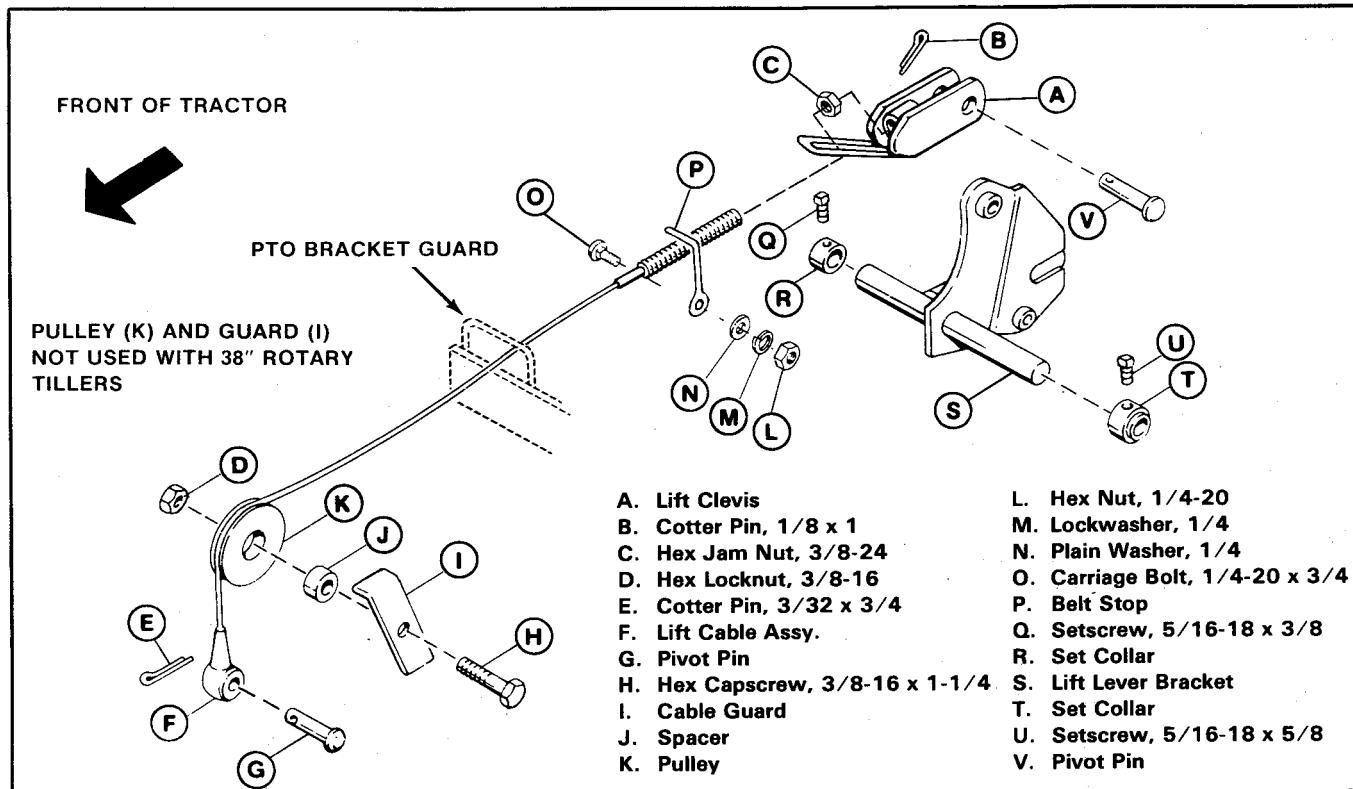
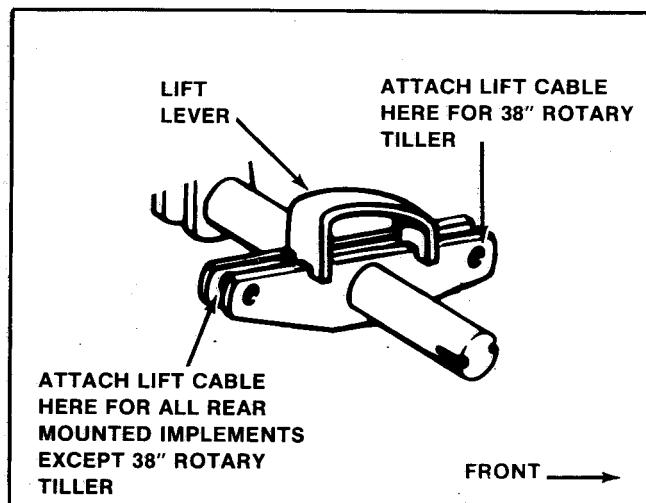

Figure 1
Figure 4
Take inventory of parts in this kit by referring to the illustrated list (figure 1). Become familiar with their descriptions.
- To pre-set the length of your cable assembly, assemble the lift cable, hex jam nut, and lift clevis to a length of 41-1/8" from center of hole in clevis to center of cable eye. Do not lock jam nut at this time. See figure 1 for correct sequence.
- Bring cable forward passing it through the guard on the PTO bracket (figure 1).
- The pulley and cable guard (figure 1) are not used with a 38" rotary tiller. With the cable over the top of the pulley, attach the spacer, cable guard and pulley to the u-shaped bracket with the capscrew and locknut as shown in figure 1. The u-shaped bracket is located underneath the frame above the lift lever.
- Attach the end of the cable to the lift lever with pivot pin and 3/32 x 3/4" cotter pin (figure 1). Be sure to install the pin from the left-hand side as shown. To determine which hole to use in the lift lever, see figure 4.